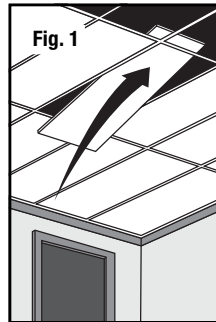

Fig. 1
3. Push panel through the T-bar opening (Fig. 1).